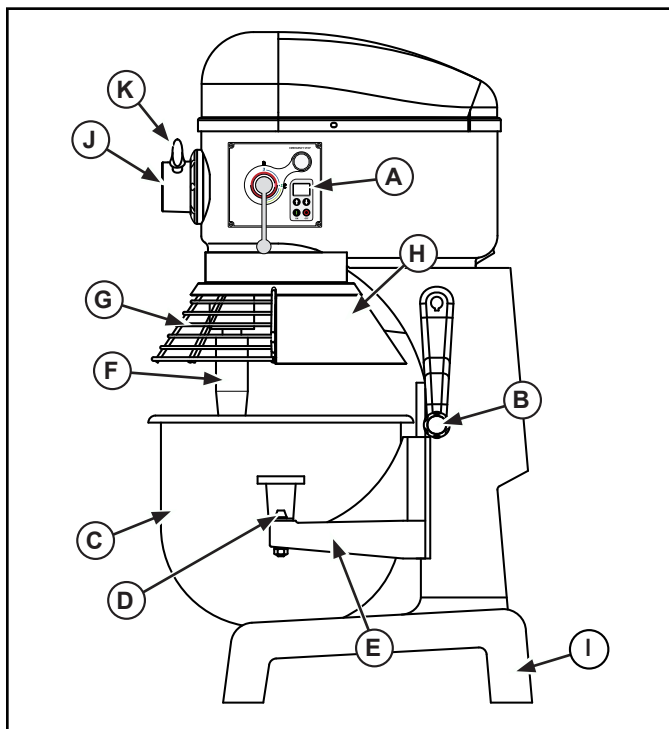

Figure 3. 40 Quart Mixer, Features and Controls.
1. Close the bowl guard (G). See Figures 3 or 4. The safety guard must be closed for the mixer to operate. If the safety guard is open or not closed properly then the mixer will not operate.